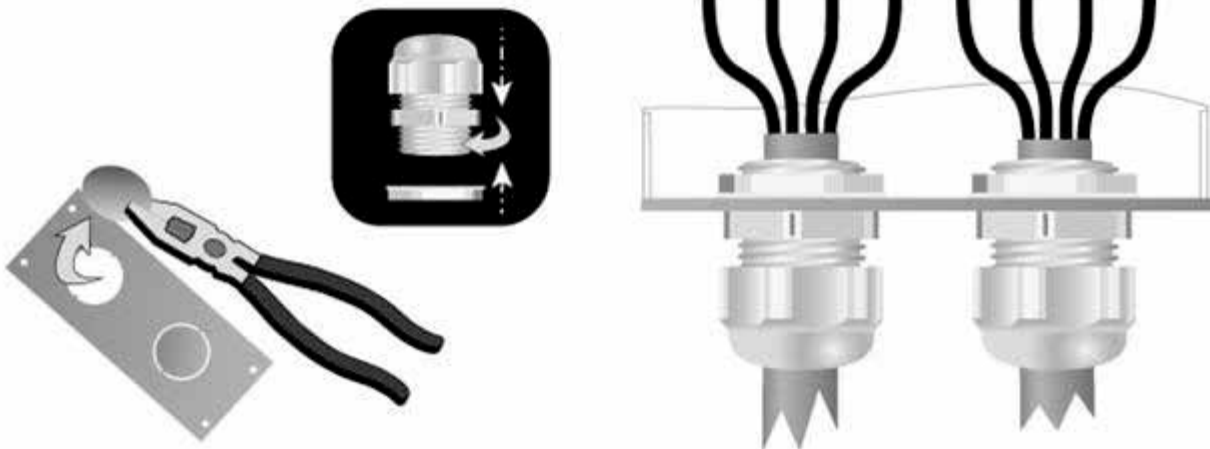

FIG 32 – HARDWIRE INSTALL 6/10KVA UPS
3. Punch out the appropriate holes in the terminal cover. Secure the input/output cables using appropriate hardware as shown in FIG 32.